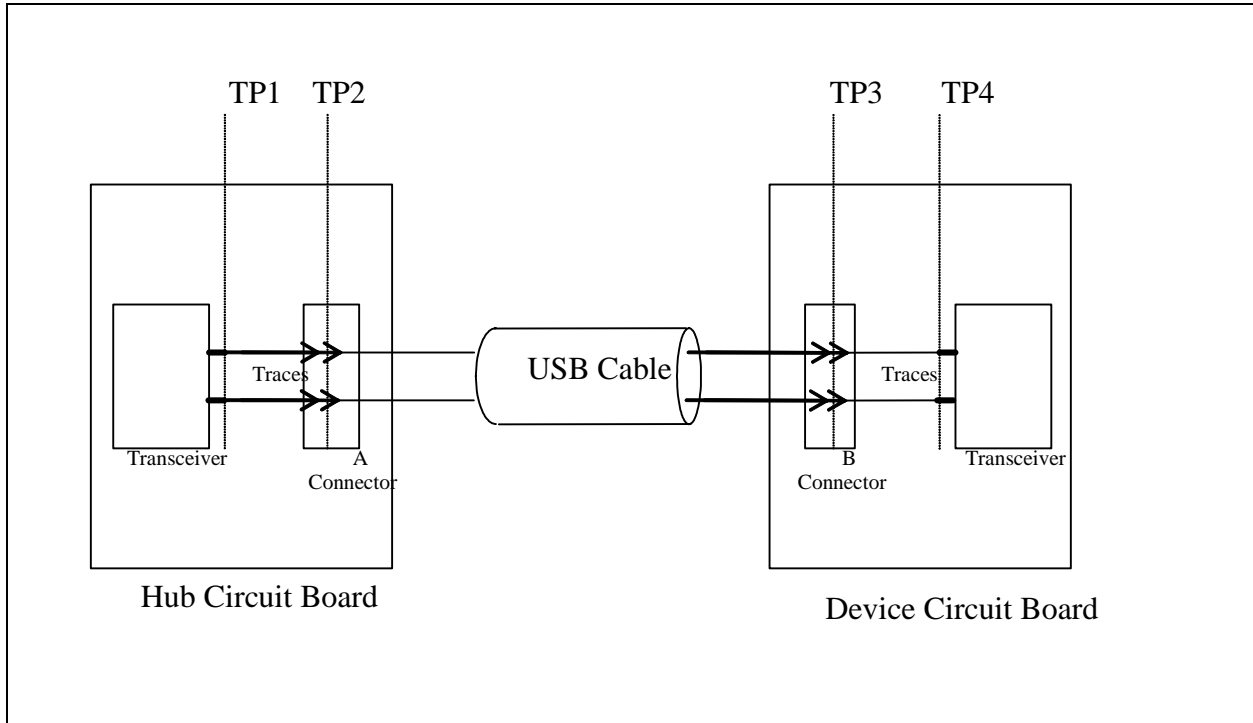
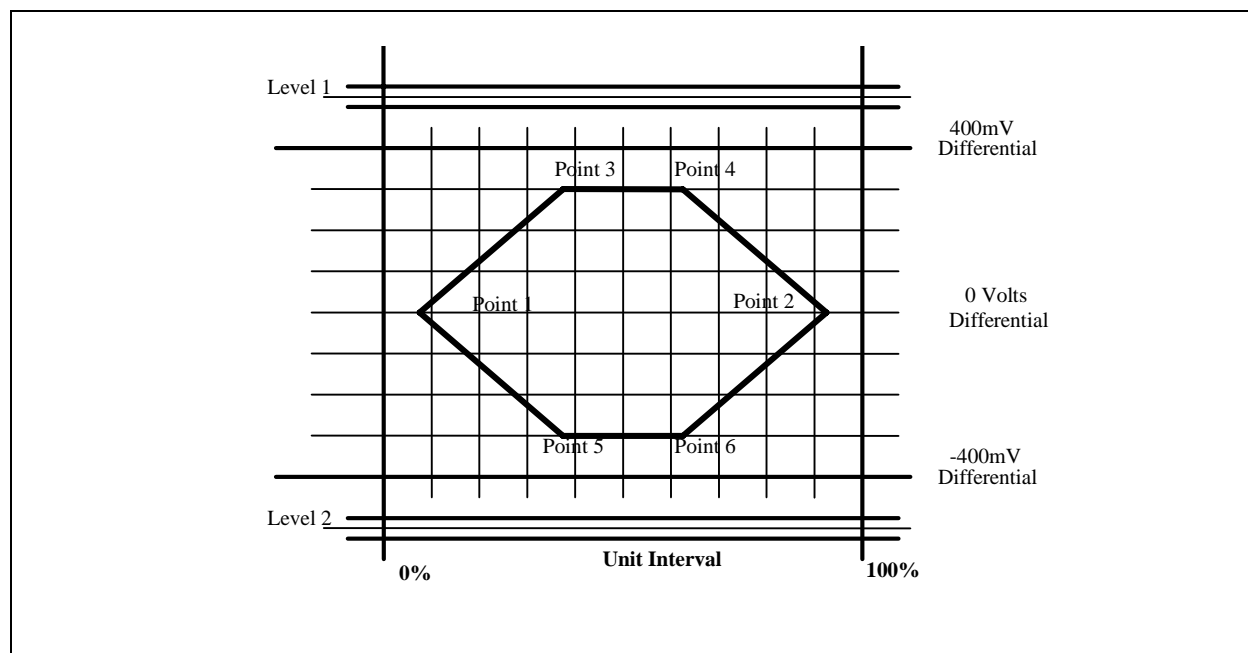
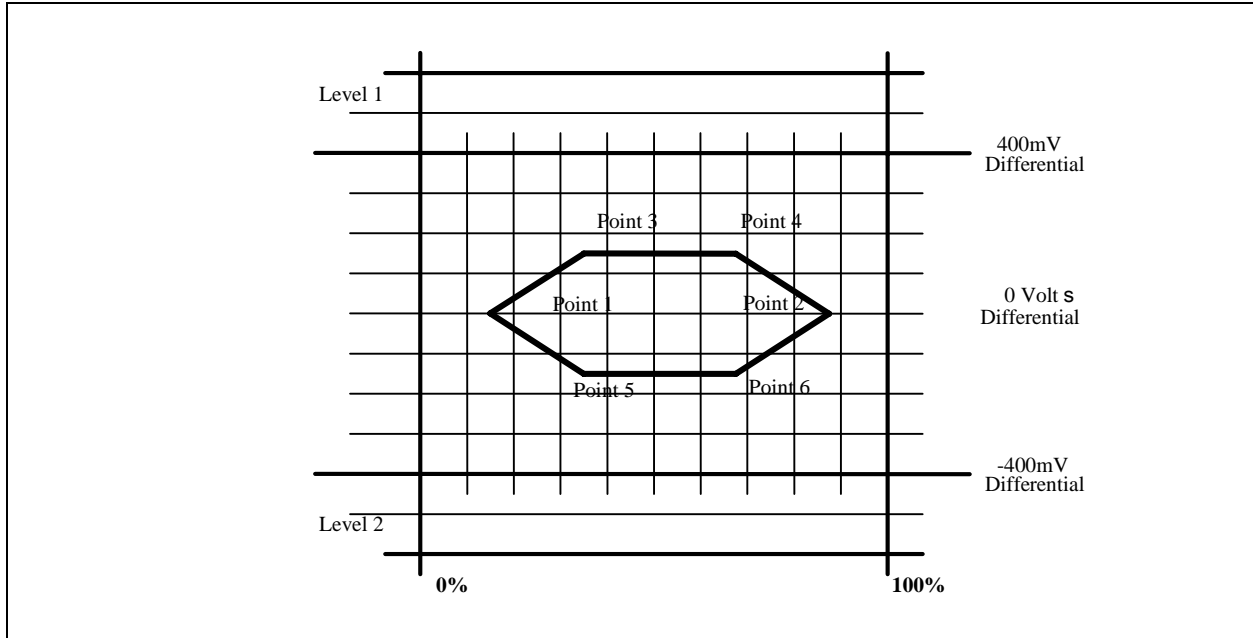

Figure 6.3 Eye Pattern Measurement Planes
Figure 6.4 Eye Pattern for Transmit Waveform and Eye Pattern Definition
Figure 6.5 Eye Pattern for Receive Waveform and Eye Pattern Definition
High-speed USB signals are characterized using eye patterns. For measuring the eye patterns 4 points have been defined (see Figure 6.3). The Universal Serial Bus Specification Rev.2.0 defines the eye patterns in several ‘templates’. The two templates that are relevant to the PHY are shown below.
The eye pattern in Figure 6.4 defines the transmit waveform requirements for a hub (measured at TP2 of Figure 6.3) or a device without a captive cable (measured at TP3 of Figure 6.3). The corresponding signal levels and timings are given in table below. Time is specified as a percentage of the unit interval (UI), which represents the nominal bit duration for a 480 Mbit/s transmission rate.
The eye pattern in Figure 6.5 defines the receiver sensitivity requirements for a hub (signal applied at test point TP2 of Figure 6.3) or a device without a captive cable (signal applied at test point TP3 of Figure 6.3). The corresponding signal levels and timings are given in the table below. Timings are given as a percentage of the unit interval (UI), which represents the nominal bit duration for a 480 Mbit/s transmission rate.